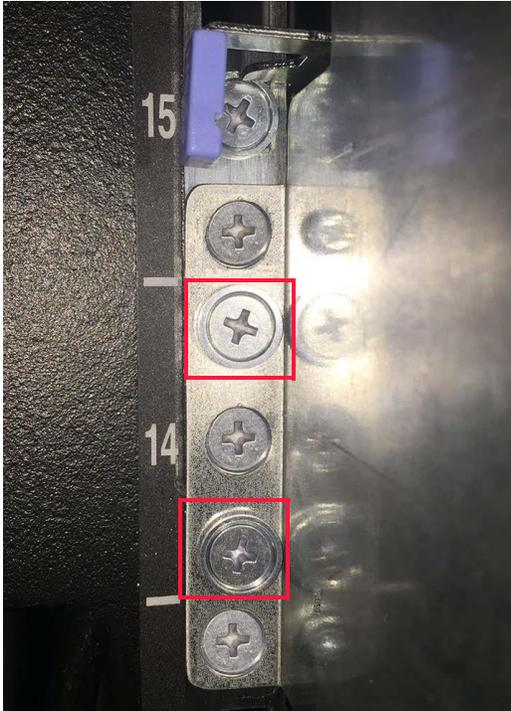

Figure D.2 Rear rack post screws
1. Remove the two Phillips® M5 X 10 flat head screws from the second and fourth position from the right rear rack post. The screws to be removed are shown in Figure D.2.